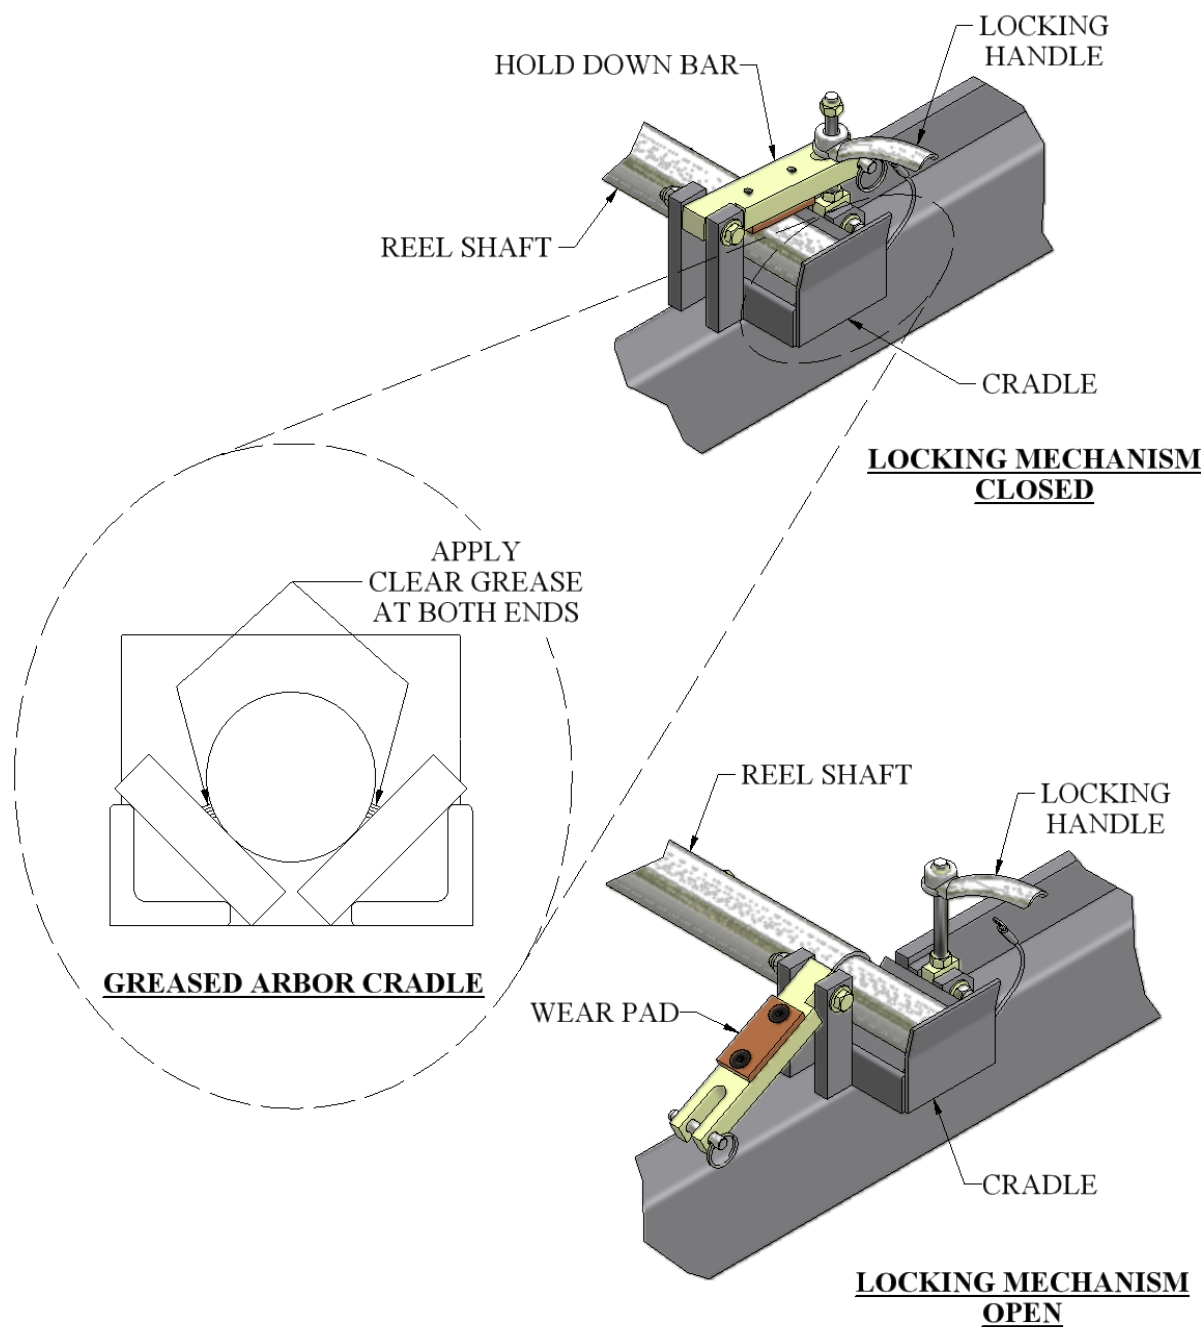

Figure 10: Expandable Reel Assembly
1. Prepare the reel stand by making sure the Hold Down Bars are in the unlocked and open Position (Figure 10).
3. Rotate the Hold Down Bars (Figure 10) to the closed position and thread the handle onto the hold down bolt. If material is going to be used from this coil right away, tighten the left and right handle just snug. Final adjustment of tension should be made while running a panel to keep reel from unwinding material too fast. As the coil becomes smaller, re-adjustment will need to be made. **Caution: Do Not over tighten Hold Down Bars. Drive and/or electrical system failure may occur.**
1. The reel shafts must rest in the cradles on the reel rack. Keep the cradles lubricated with synthetic lube to minimize wear. (Figure 10)
2. Use the Hold Down Bars on each cradle to secure the coil and reel to the reel stand during both operation and transit of the machine. The Hold Down Bracket should be used to keep the coil from uncoiling too fast during the fabrication of panels. Apply just enough drag to keep coil tensioned. (Figure 10)